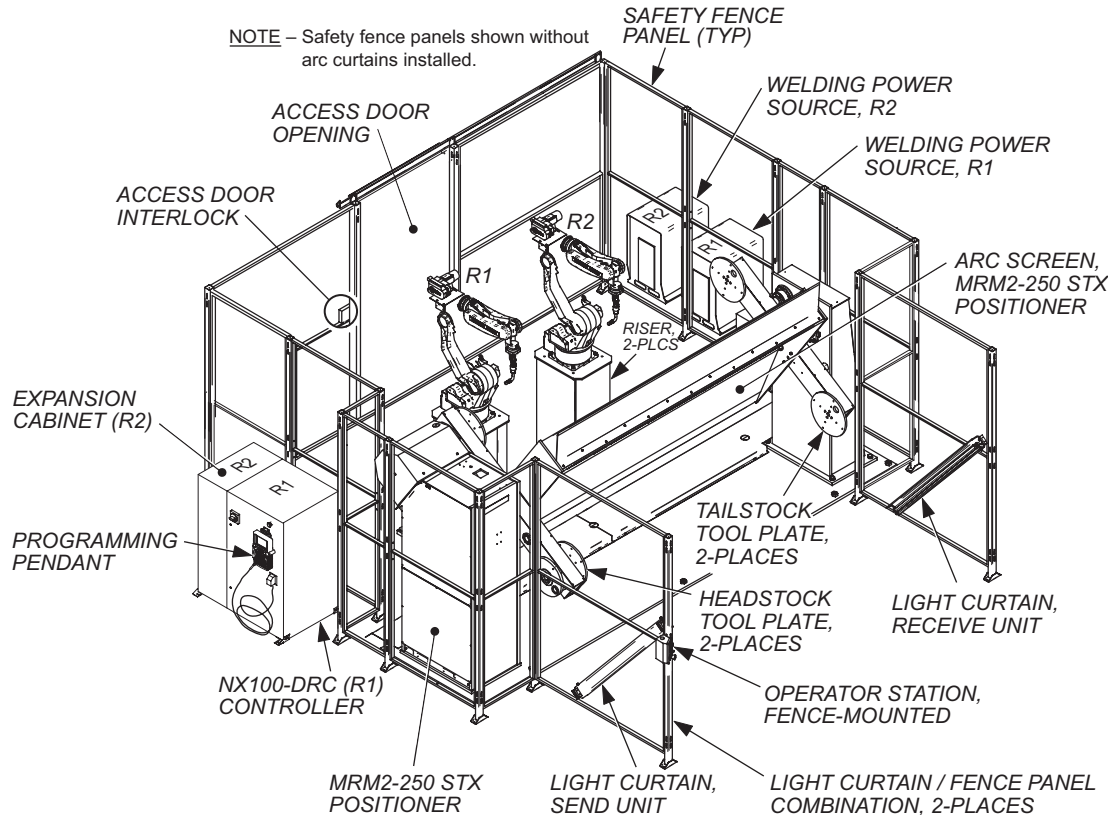

Figure 1 Overview and Component Location – ArcWorld®II-6200 DRC System
The ArcWorld®II-6200 DRC system provides a complete arc welding solution in a standardized configuration (see Figure 1). The system is designed around two Motoman EA-series robots (EA1400N or EA1900N), an NX100-DRC controller assembly, two welding power sources, and one MRM2-250 STX positioner.
Major components of the ArcWorld®II-6200 DRC system are anchored individually to the floor, as this system does not use common equipment bases. Heavy-gauge, wire mesh safety fencing is provided for installation at the customer's location. When installed, this safety fencing completely surrounds the work cell. The NX100-DRC controller assembly and both welding power sources are located outside of the work cell. All system controls, including those on the Programming Pendant, NX100-DRC controller assembly, welding power supplies, and Operator Station are safely accessible from outside the ArcWorld®II-6200 DRC work cell (see Figure 1 for location of these components).
- One fence-mounted Operator Station (see Figure 1 for location)